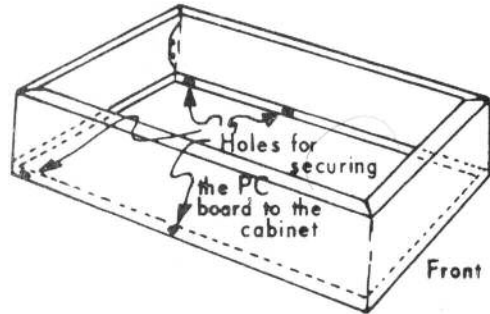

Fig. 10a Holes in bottom lip for mounting P.C. board to cabinet.
- () 27. Once the board has been properly held in position by the focus coil the four P.C.-to-chassis mounting holes can be marked and drilled out on the bottom lip of the cabinet. These holes secure the center and rear of the board. See fig.10a. Use a 1/8" drill bit.